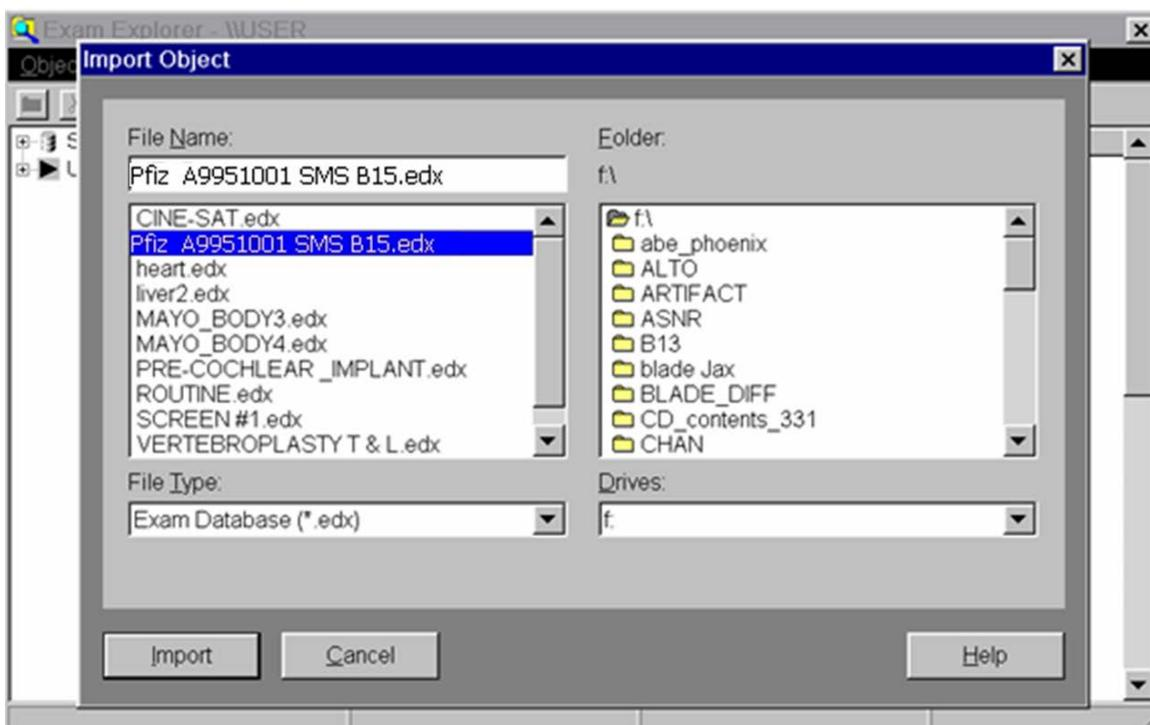

Figure 8: Siemens Import Window
6. On the bottom right, select the USB drive (typically F:) and then navigate to the file saved on the USB drive, Figure 8.